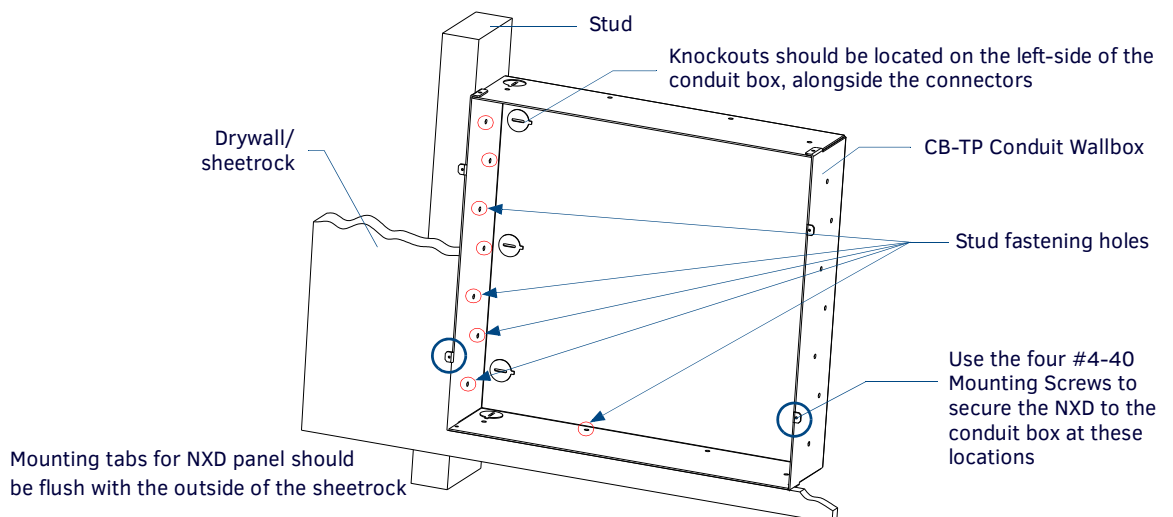
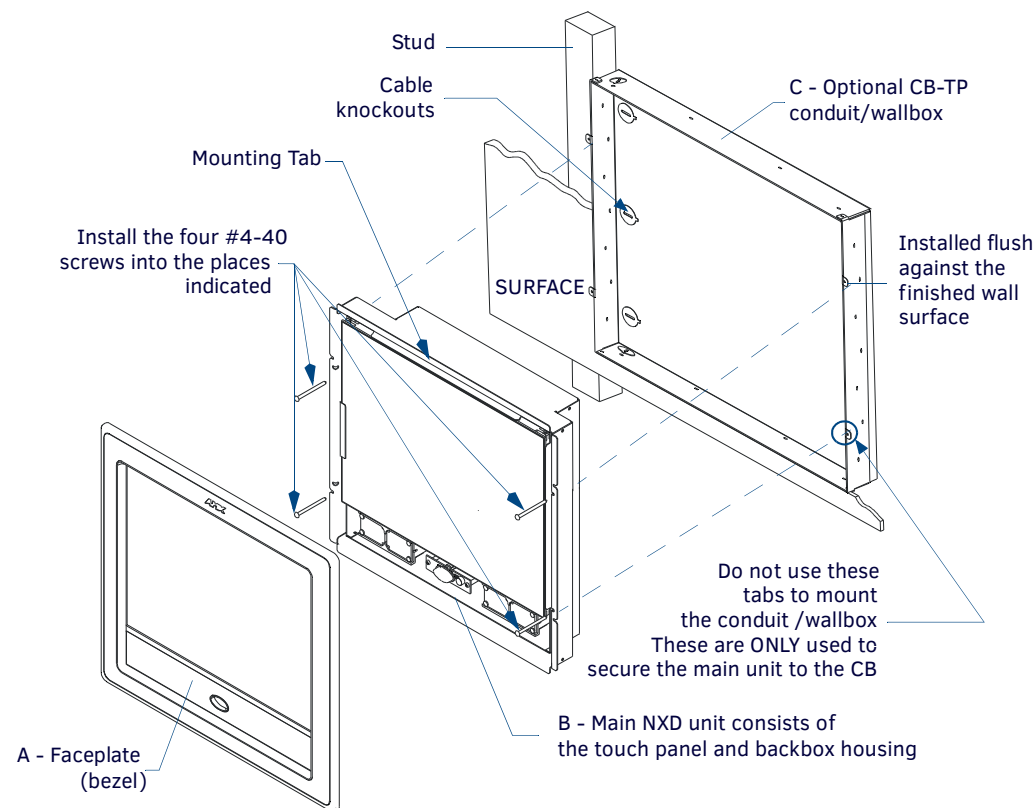

FIG. 38 Screw locations for conduit box attachment in a pre-wall installation
FIG. 39 Wall Mount panel installation configuration for pre-existing conduit/wallbox in a pre-wall construction
1. Fasten the CB-TP15 or CB-TP12 to a stud through the stud fastening holes, located on the inside of the conduit box (FIG. 38), by using either nails or screws.
2. Remove any necessary wiring knockouts from the (optional) CB-TP12/15 conduit box (**C** in FIG. 39) where the necessary cables are threaded through for connection to the touch panel.
1. Remove the magnetic faceplate/bezel (**A** in FIG. 39) from the main NXD unit (**B** in FIG. 39) by gripping the faceplate and pulling with gentle outward force.
6. Carefully slide the main unit (**B** in FIG. 39) into the conduit box, so that all Mounting Tabs lie flush against the conduit box (**C** in FIG. 39).
7. Insert and secure the four securing #4-40 Mounting Screws into their corresponding holes located along the sides of the NXD (FIG. 38 and FIG. 39).
8. Place the magnetic faceplate (A in FIG. 39) back onto the main NXD unit (B in FIG. 39). *Make sure to align the Microphone, Light, and PIR Motion sensor locations to their respective openings on the front bezel/faceplate.*